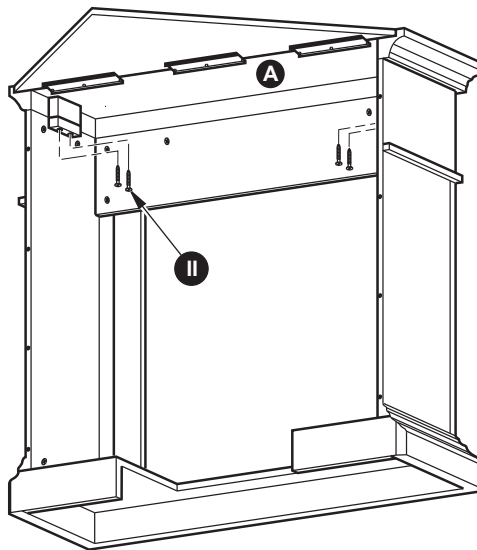

Figure 10
10. Fasten the wooden support brackets attached to the top of the mantel assembly to the Top (A) with ST4 Screw 1 9/16" (II) as shown in Figure 10.